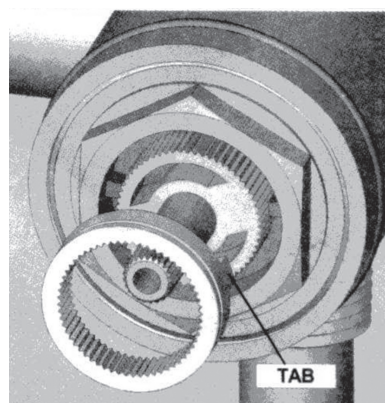

Figure 5
3. Note the stop tab on the bottom of the ring (see **Figure 5**). The further it is reoriented in a counter-clockwise direction, the shorter the travel allowed (and thus, the lower the temperature output possible). **Important: before re-orienting the ring, be sure the stem is in the full "OFF" position.**